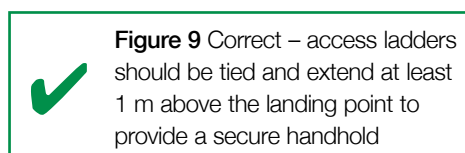

Figure 9 Correct – access ladders should be tied and extend at least 1 m above the landing point to provide a secure handhold
- ladders used to access another level should be tied (see Figure 9) and extend at least 1 m above the landing point to provide a secure handhold.